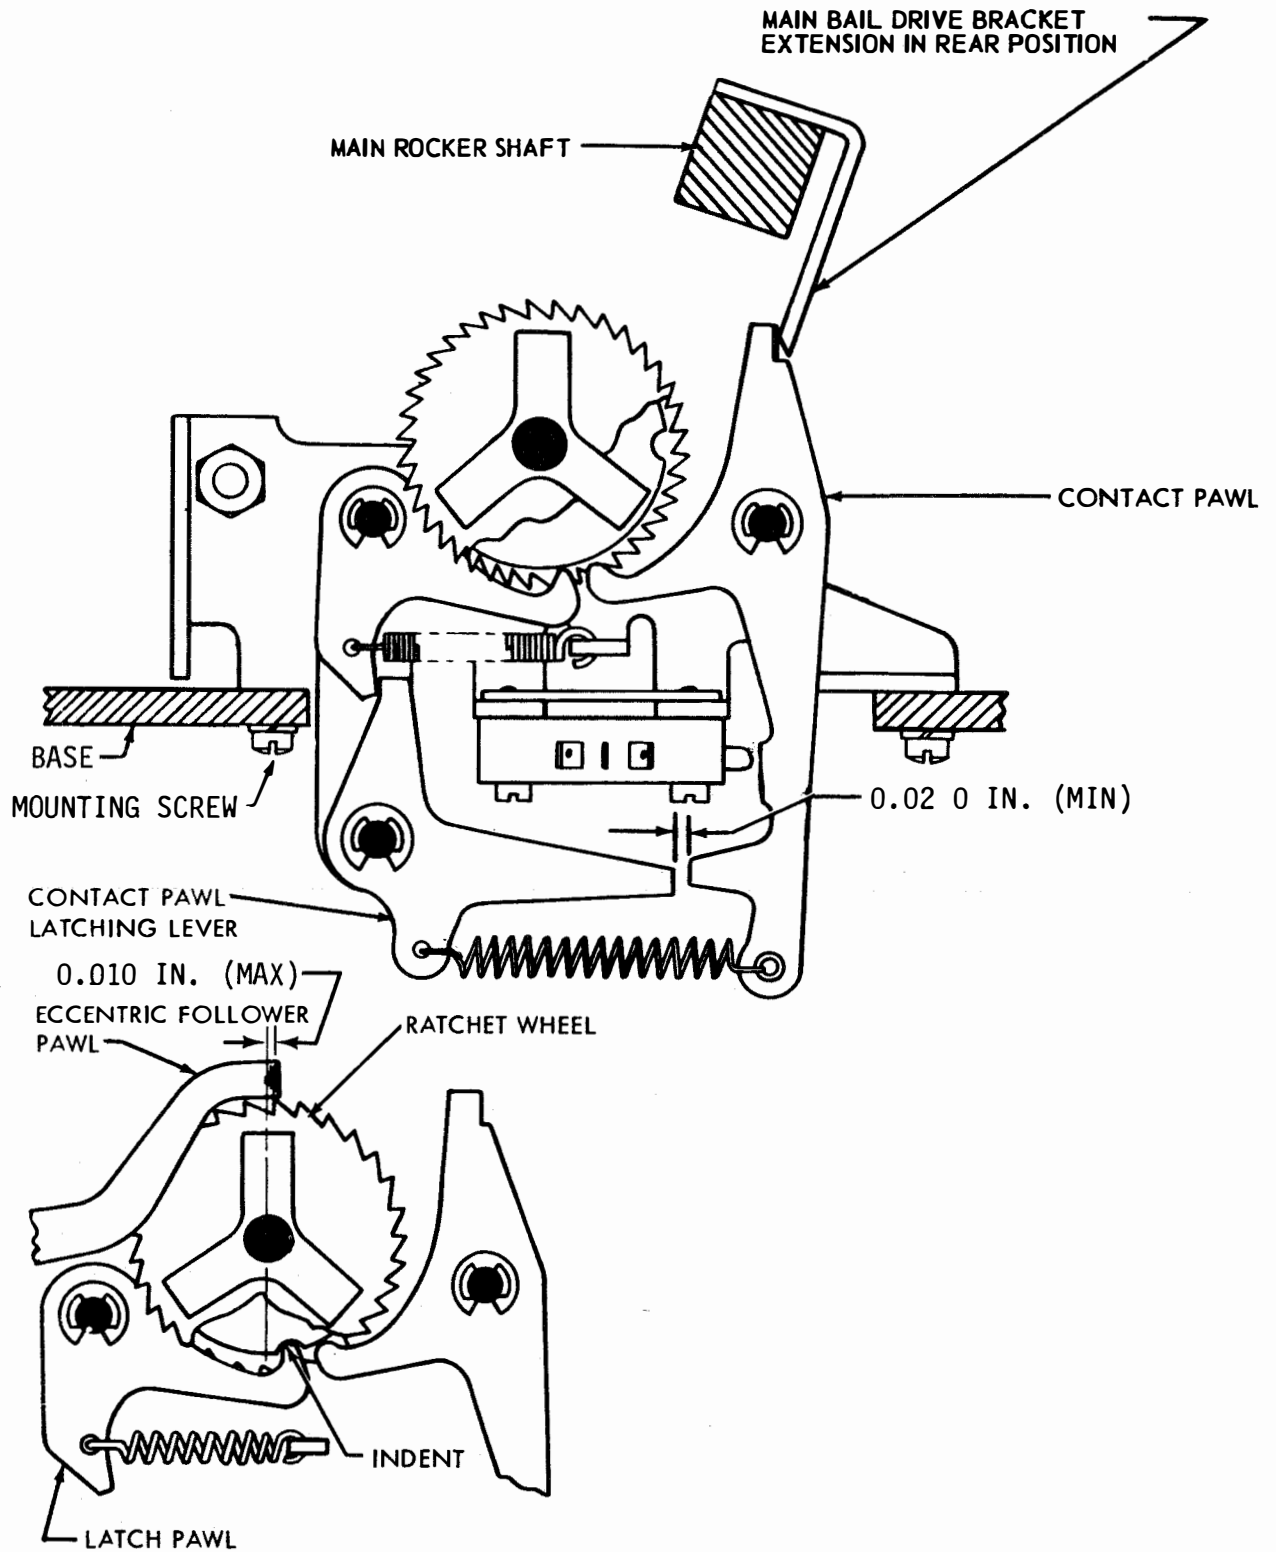

Figure 6-438. Time Delay Mechanism Position
(5) Time Delay Mechanism Position. Adjust as follows:
- (a) Refer to Figure 6-438.